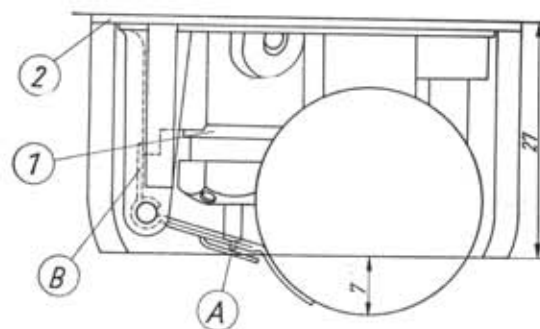

Fig. 128. Open float valve
(1) Standard packing 1.5 mm in thickness
(2) Standard packing 0.5 mm in thickness
To ensure that the float valve opens wide enough, the position of the stop lever (B) is of particular importance. The dimension of 34 mm (27 + 7), measured from the sealing face of the body to the lower edge of the float, must also be set precisely. This dimension is shown in Fig. 128.